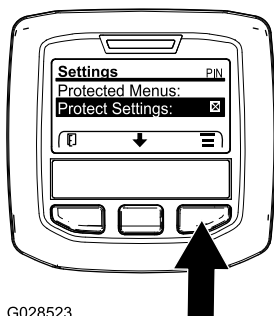

Figure 7
1. From the MAIN MENU, use the center button to scroll down to the SETTINGS MENU and press the right button (Figure 7).